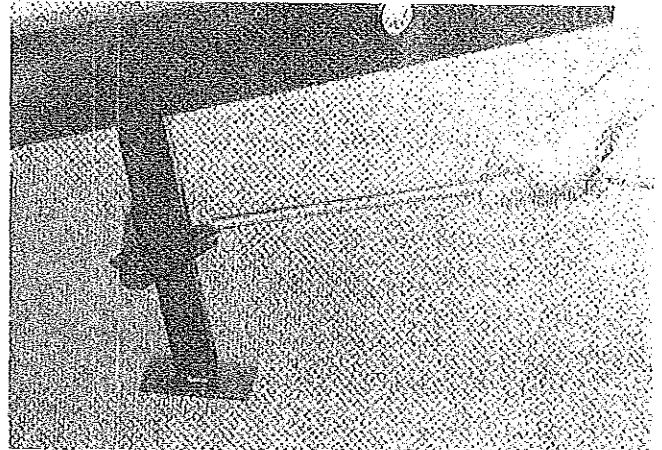

FIGURE 35
B. Press on the quick-release lever of the stabilizer jack with the jack handle and push downward slowly. This releases the stabilizer jack and the corner of the trailer will drop somewhat. See Figure 35.